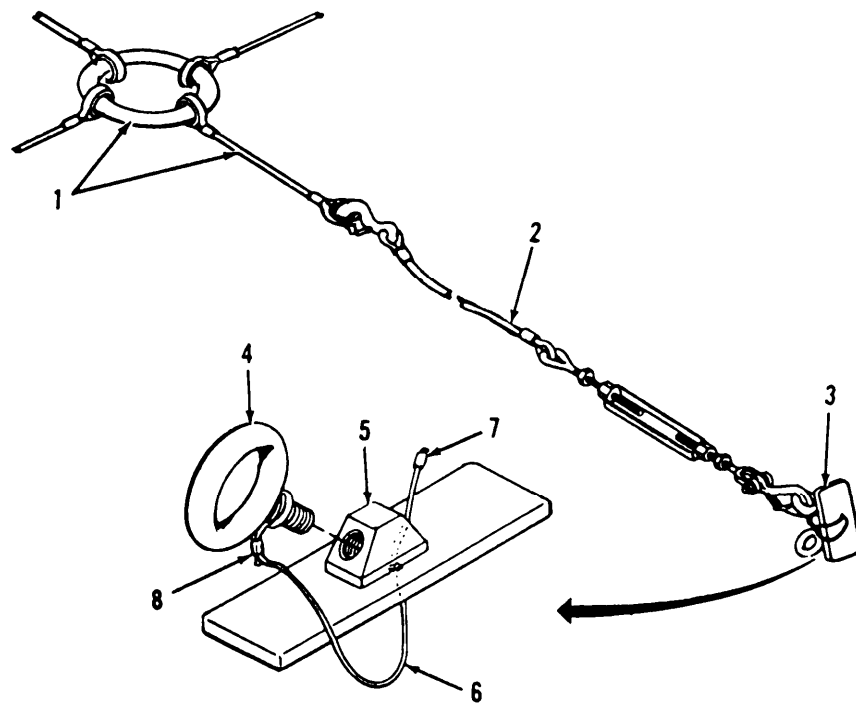

Figure 3-31. Hold Down Assembly Repair.
a. Inspect. (Figure 3-31)
- (1) Inspect plate and eyebolt assembly (3) for wear and deformation.
- (2) Inspect cable assembly for missing or damaged hardware.
- (3) Inspect cable assembly hooks for proper operation.
b. Replace. (Figure 3-31)
- (1) To replace the ring assembly (1), open safety snap on attaching hook of each of the four cable assemblies (2) and remove hook from thimble of ring assembly.
- (2) Open safety snap on hook at opposite end of cable assembly (2) and remove hook from plate and eyebolt assembly (3).
- (3) Unscrew each of the two eyebolts (4) and remove from plate (5).
- (4) Push cable (6) out of plate (5), cut sleeve (7 or 8), and pull and remove cable from opposite direction.
- (5) Push new cable (6) through eyebolt mounting hole on top of plate (5).
- (6) Attach sleeve (7) at end of cable (6) and pull cable out until sleeve (7) stops inside plate (5).
- (7) Attach other end of cable (6) around eyebolt (4) and secure to eyebolt with sleeve (8).
- (8) Repeat steps 6 through 8 above with second cable and eyebolt.
- (9) Push safety hook of cable assembly (2) to attach eyebolt (4) of plate and eyebolt assembly (3).
- 10) Push safety hook of each cable assembly to attach each thimble of the ring assembly (1).